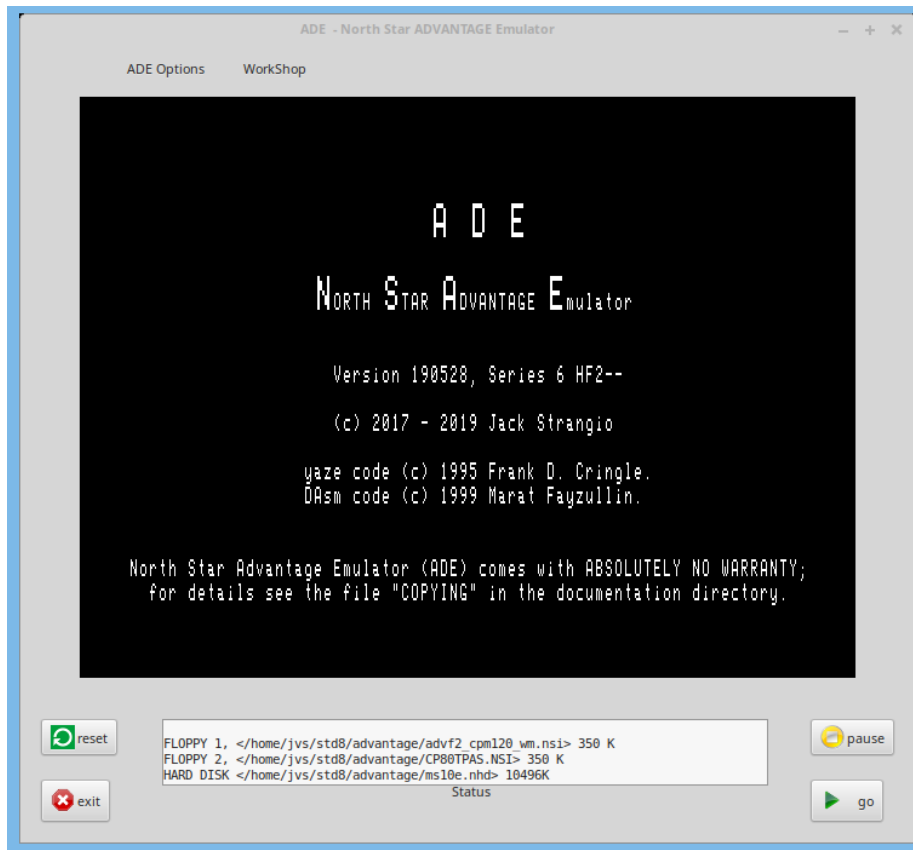

Fig. 1. Initial ADE Splash Screen. Z80 Emulator not yet running. White screen output.
- Fig. 1, Page 9: Initial ADE Title Screen.